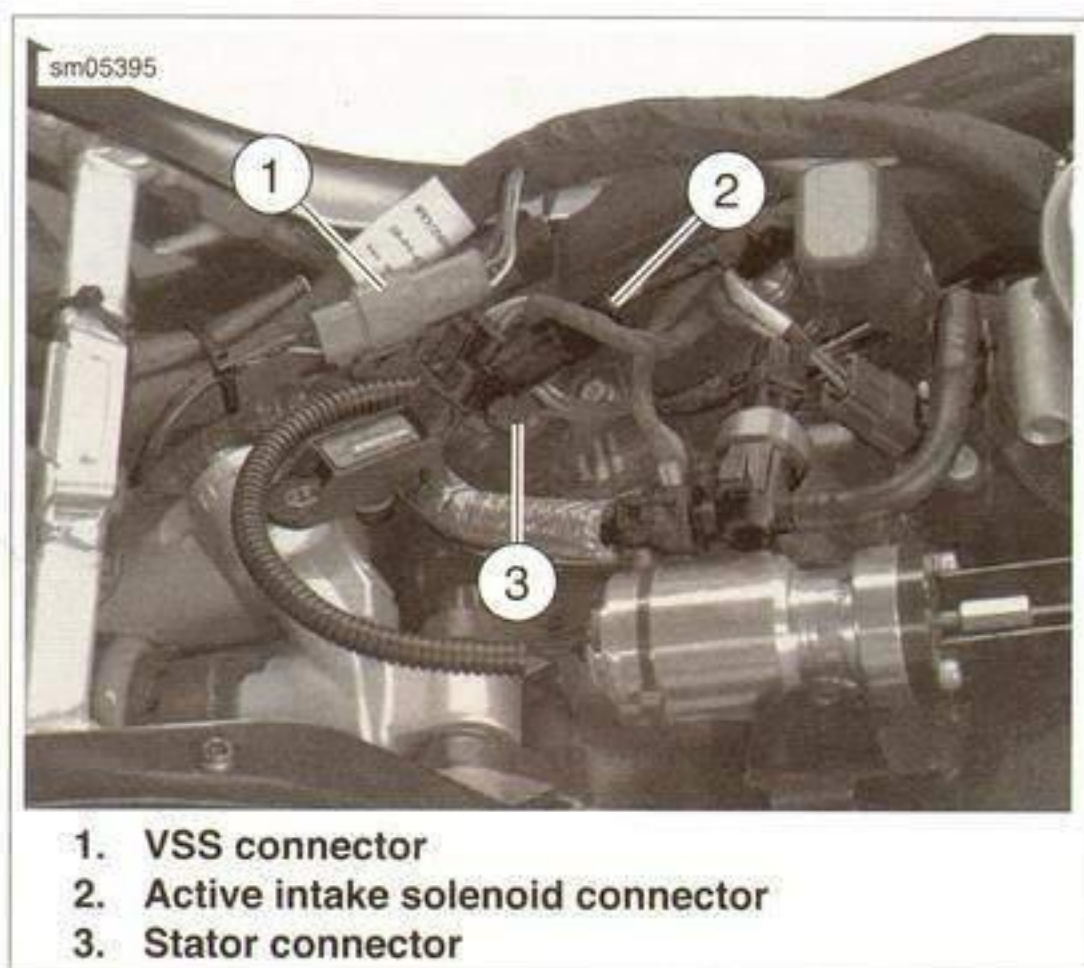
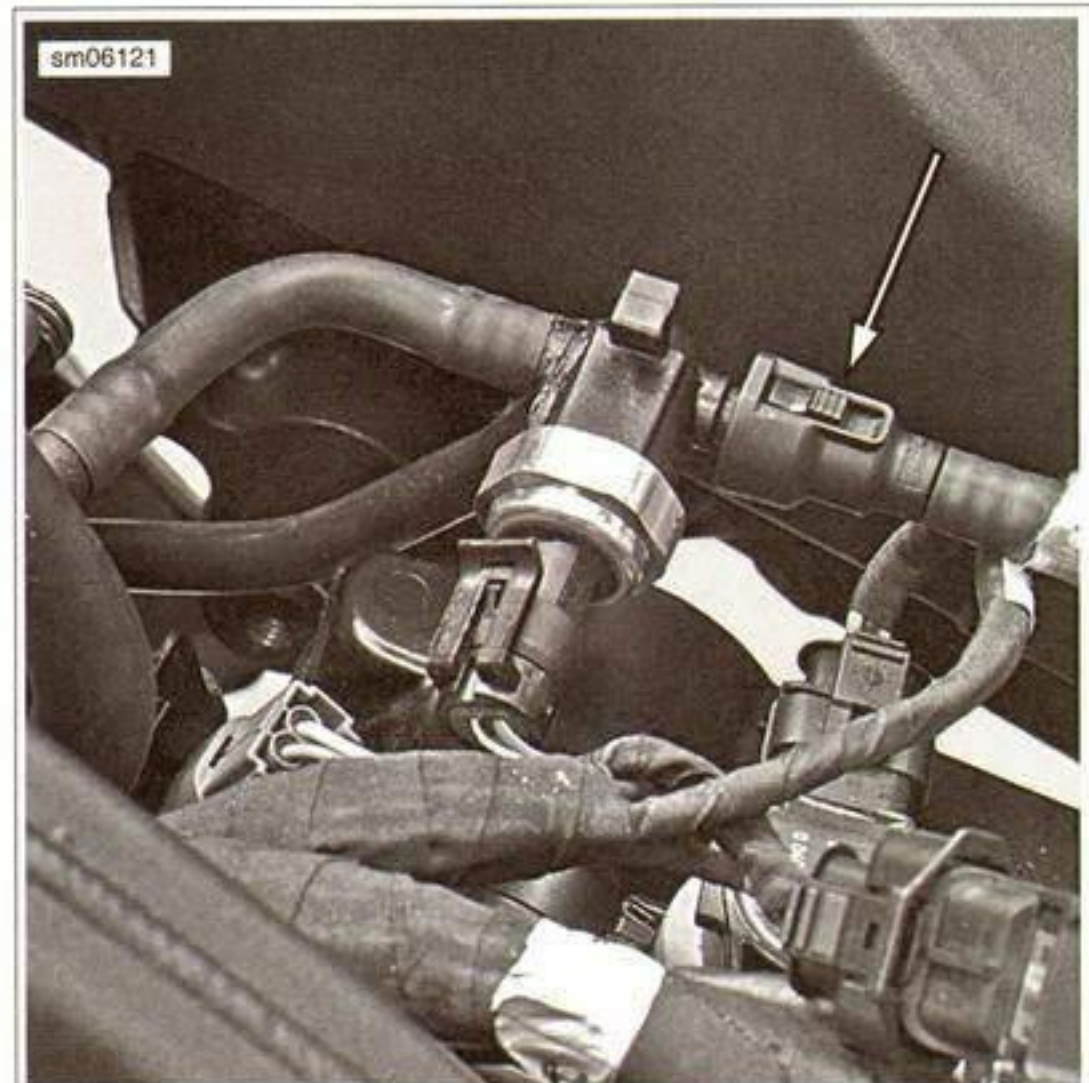

Figure 3-54. Connectors Under Seat
Figure 3-56. Fuel Line Connector
2. See Figure 3-54. Connect active intake solenoid [178] connector (2).
3. Connect stator [46] plug (3).
4. Connect VSS [65] connector (1).
10. See Figure 3-56. Install the fuel rail.